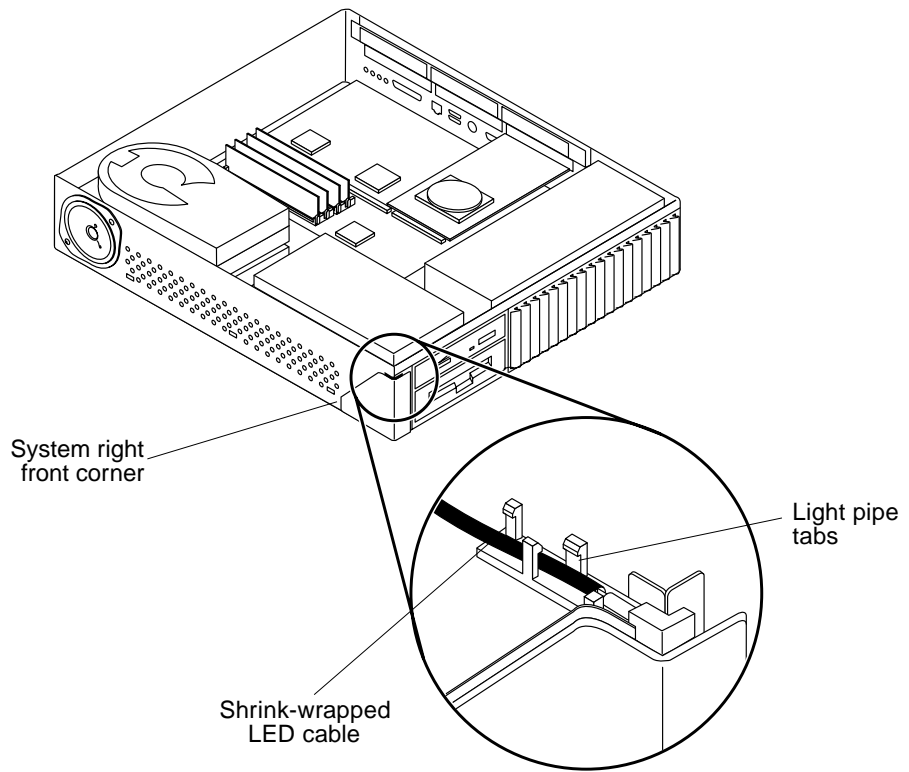

FIGURE 8-6 LED Light Pipe Detail
Note – Three tabs on the LED light pipe secure the LED to the right front corner of the chassis (FIGURE 8-6).
4. Use the tip of a small screwdriver to work the cable and LED free from the light pipe tabs (FIGURE 8-6).
1. **Position the LED near the tabs and light pipe at the corner of the system** (FIGURE 8-6).
2. **Use the tip of a small flatblade screwdriver to work the shrink-wrapped LED wires through the tabs** (FIGURE 8-6).